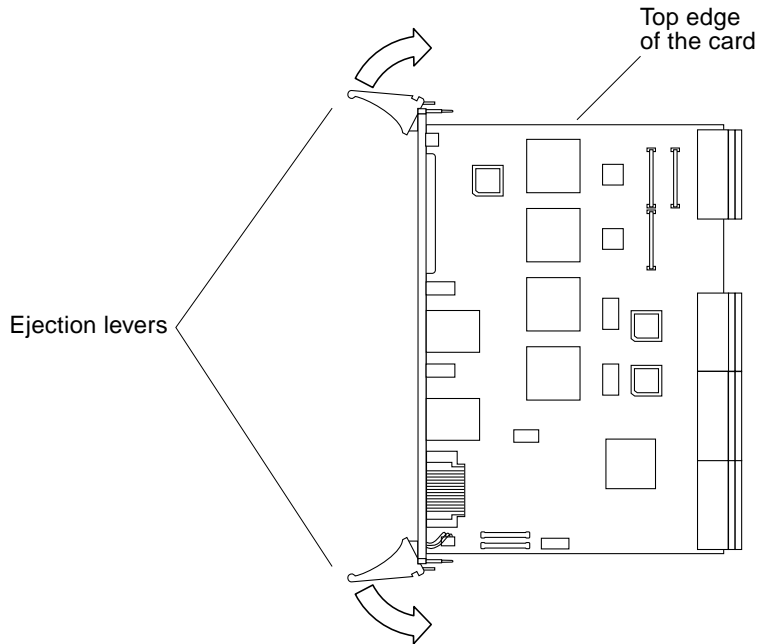

FIGURE 2-13 Opening the Front Card's Ejection Levers
6. With the card resting on the mat, press the ejection levers on the card outward to open them (FIGURE 2-13).